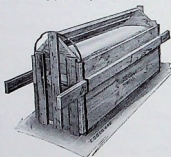

Fig. 5
1. Procure a strong box made with steeple shaped top (Fig. 5) to prevent the package from being placed upside down. The inside dimensions should be at least 2 inches greater than the overall size of the battery.